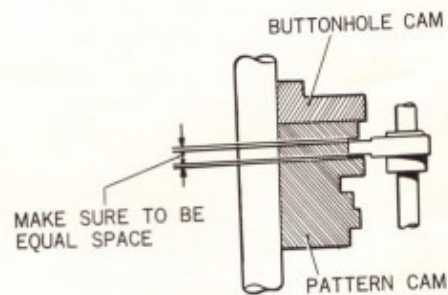

Fig. 21
1. Turn automatic pattern selecting dial knob to get cam follower (F) to contact against any one of the cams, except the buttonhole cam (top cam). For easier adjustment, it is recommended to set it to a cam in the upper part of cam cluster.
2. Check to see if follower tip touches a cam contour in such a way that it clears the top and bottom surfaces of the adjoining cams with an equal space (see Fig. 21).